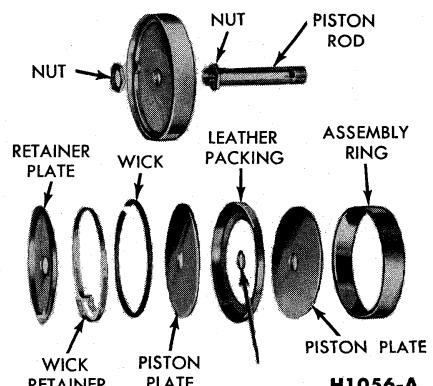
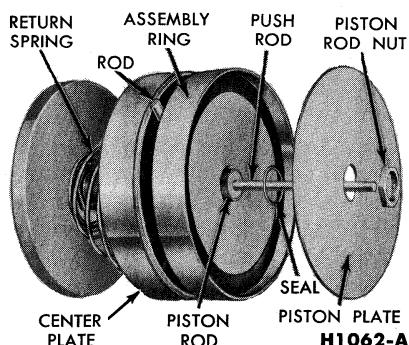

FIG. 42—Rear Vacuum Piston and Rod Assembly
FIG. 48—Rear Vacuum Piston, Return Spring, and Outer Plate Assembly
14. Disassemble the rear piston by pressing down on the return spring. Then, remove the rod, center plate, and return spring from the piston rod (Fig. 42).
1. Assemble the rear vacuum piston by installing the nut on the rear vacuum piston end of the piston rod with the flat side of the nut upward (Fig. 42).
17. If the front piston was disassembled to replace the leather piston packing, the cotton wicking, or other parts, assemble the piston parts in the assembly ring in the same order as the rear piston (Fig. 42). Hold the parts in the ring and turn the assembly ring over. Remove the larger diameter piston plate and seal. With the assembly ring still in place, guide the remaining piston parts over the end of the push rod and against the piston rod nut (Fig. 48). Carefully install the seal over the threads of the piston rod. Place the larger diameter piston plate on the piston rod, with the chamfered side of the hole toward the seal.